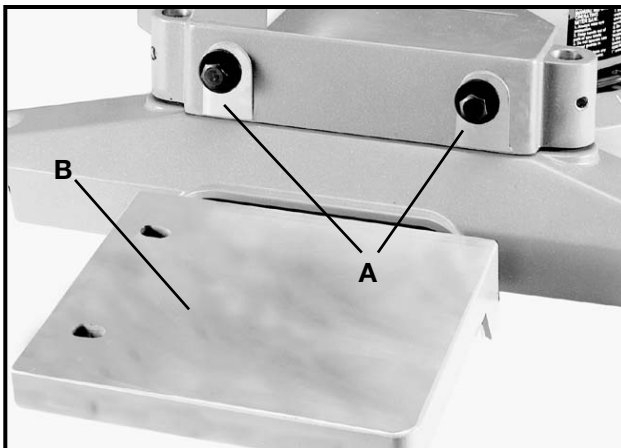
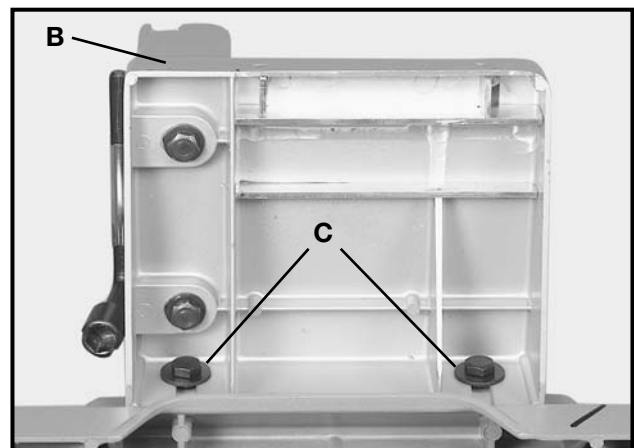
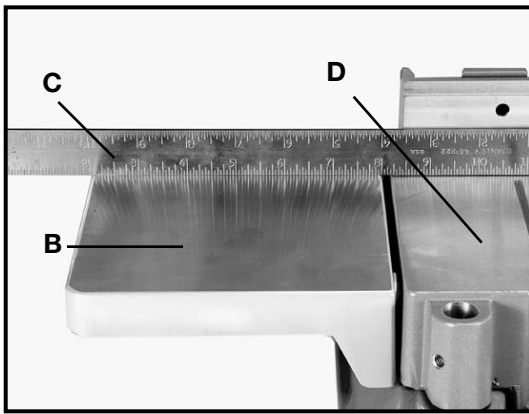

Fig. 7A
Fig. 7B
Fig. 7C
1. Attach flat washers to the two 3/4” screw assemblies (A) Fig. 7A, and thread into the threaded holes on left side of the saw.
2. Attach the table extension (B) Figs. 7A and 7B, to left side of saw table, making sure groove of table extension (B) is inside flat washers (C) as shown in Fig. 7B.
3. Use a straight edge (C) Fig. 7C, to make the extension table (B) even with saw table (D), and tighten the two screws (A) Fig. 7B.